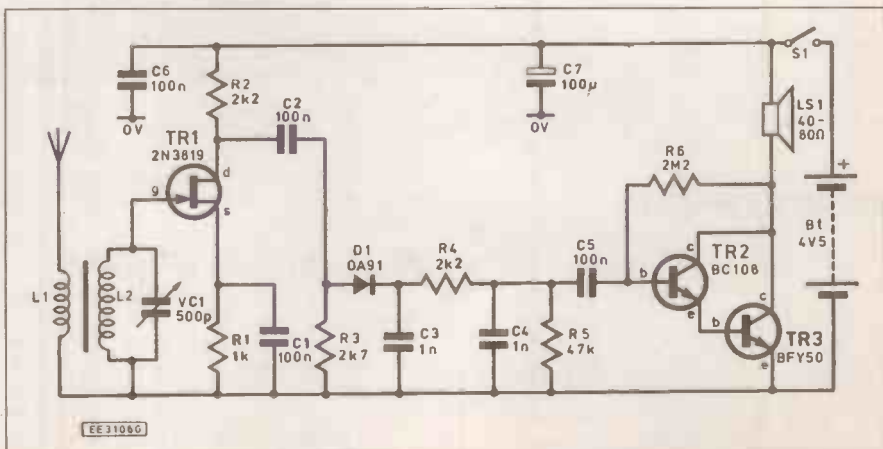

Fig. 7.4. A simple tuned radio frequency (TRF) receiver.
A simple tuned radio frequency (TRF) radio receiver is shown in Fig. 7.4. This circuit employs a parallel tuned circuit (L2, VC1) input stage which exhibits the impedance/frequency characteristic shown in Fig. 7.5. Maximum gain occurs at the frequency of resonance of the circuit which is approximately given by:
In the circuit of Fig. 7.4, TR1 acts as
**Question 4:** The circuit of Fig. 7.4 is to be built using an inductor of  $220\mu\text{H}$  and a capacitor which has minimum and maximum values of  $50\text{p}$  and  $500\text{p}$ , respectively. Determine the tuning range for the receiver.